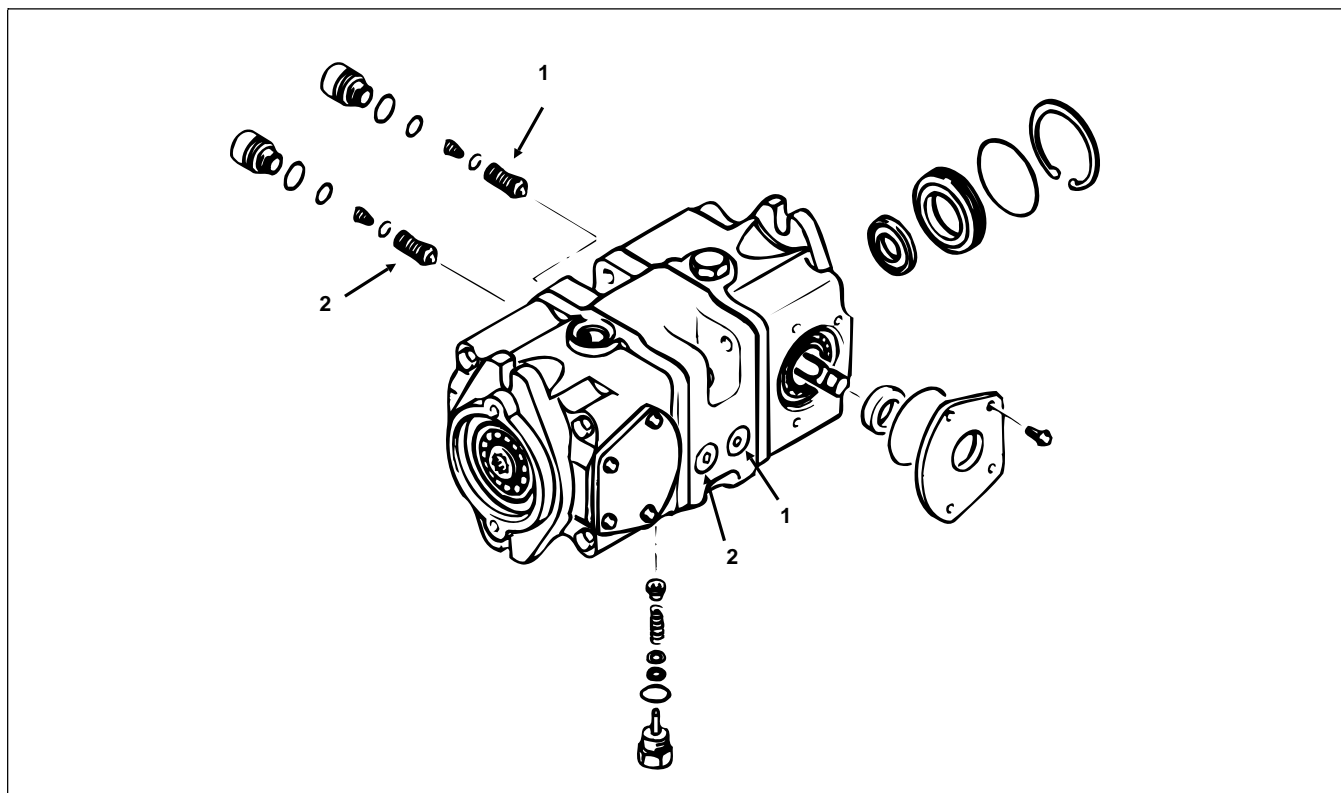

Figure 30
2. Remove the check/high pressure relief valve hex plug (Fig 30).